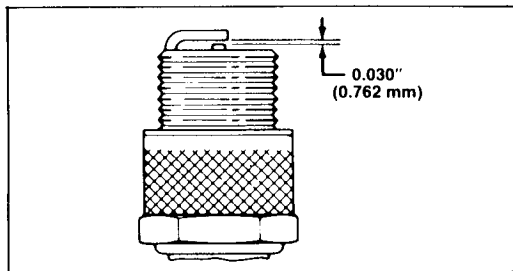

Figure 12
3. Set air gap at 0.030" (0.762 mm) (Fig. 12). Install correctly gapped spark plug and gasket seal. Tighten plug firmly to 18 ft-lb (24.4 N-m).